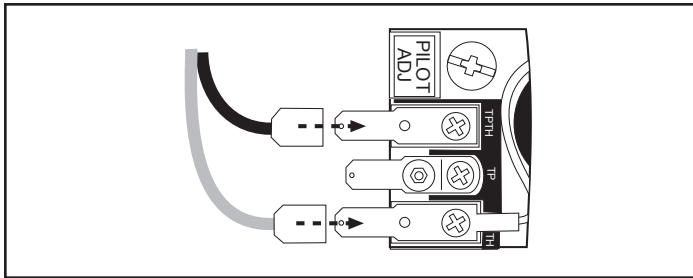

Figure 4.6 - Attach switch wires to valve (Millivolt).
2. Connect the thermostat wires to the valve, Figure 4.6.